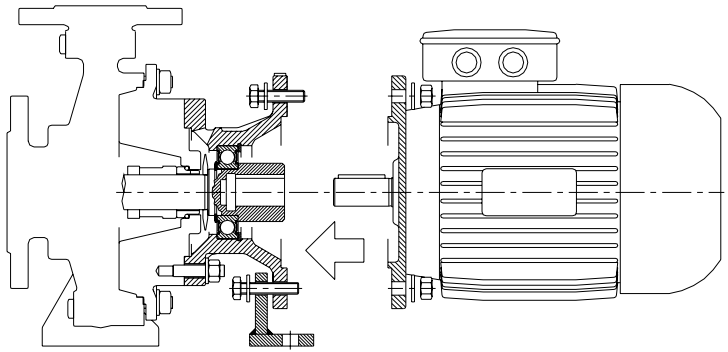

Fig. 14A
- Attach the electric motor to the pump flange making sure that the two shafts lineup and the key engages the keyway. Bolt the assembly with the supplied fasteners and install the supporting foot if it applies to the specific pump (see fig 14A).